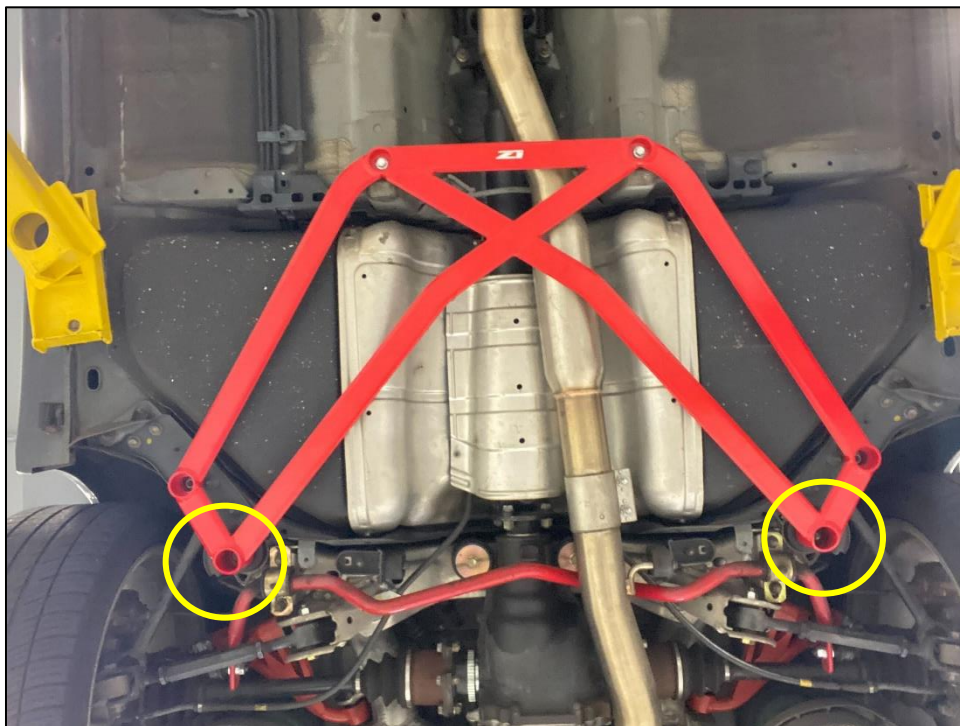

Figure 4
6. Reinstall the (2) two OE Subframe Nuts removed in *Step 4. Figure 4.*